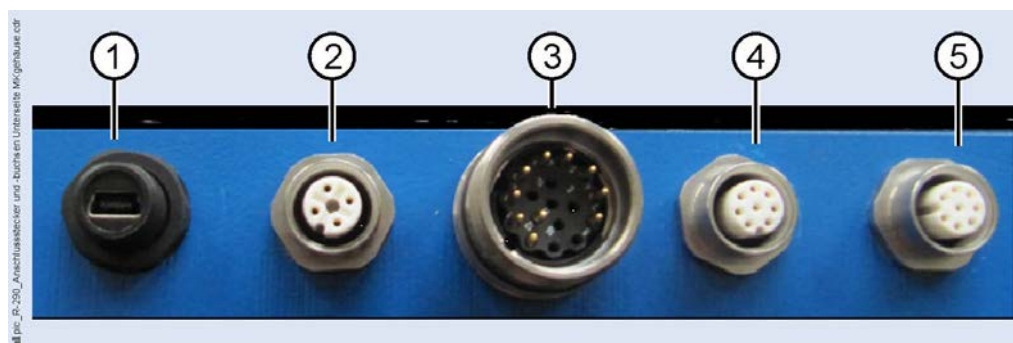

Fig. 7.18: Connection plugs and sockets on the underside of the housing
- ▶ Sensor 1 / shutter 1: -> measuring head -> connection 4 in Fig. 7.18
- ▶ Sensor 2 / shutter 2 -> reflector -> connection 5 in Fig. 7.18